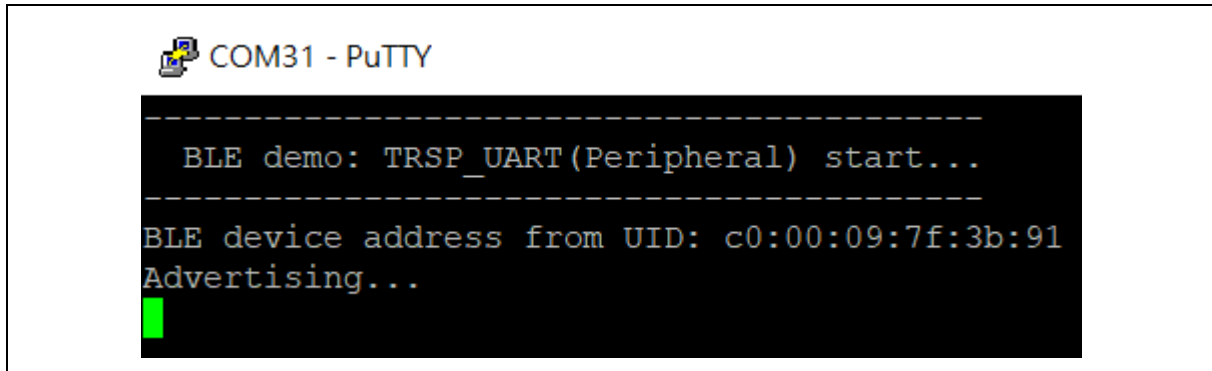

Figure 4-1 TRSP\_UART\_Peripheral Boot Message
1. Start a terminal software (e.g. Putty) and then open the VCOM of NuMaker-M03xBT board, where the UART baud rate is 115200. You will see the following message after booting, as shown in Figure 4-1.